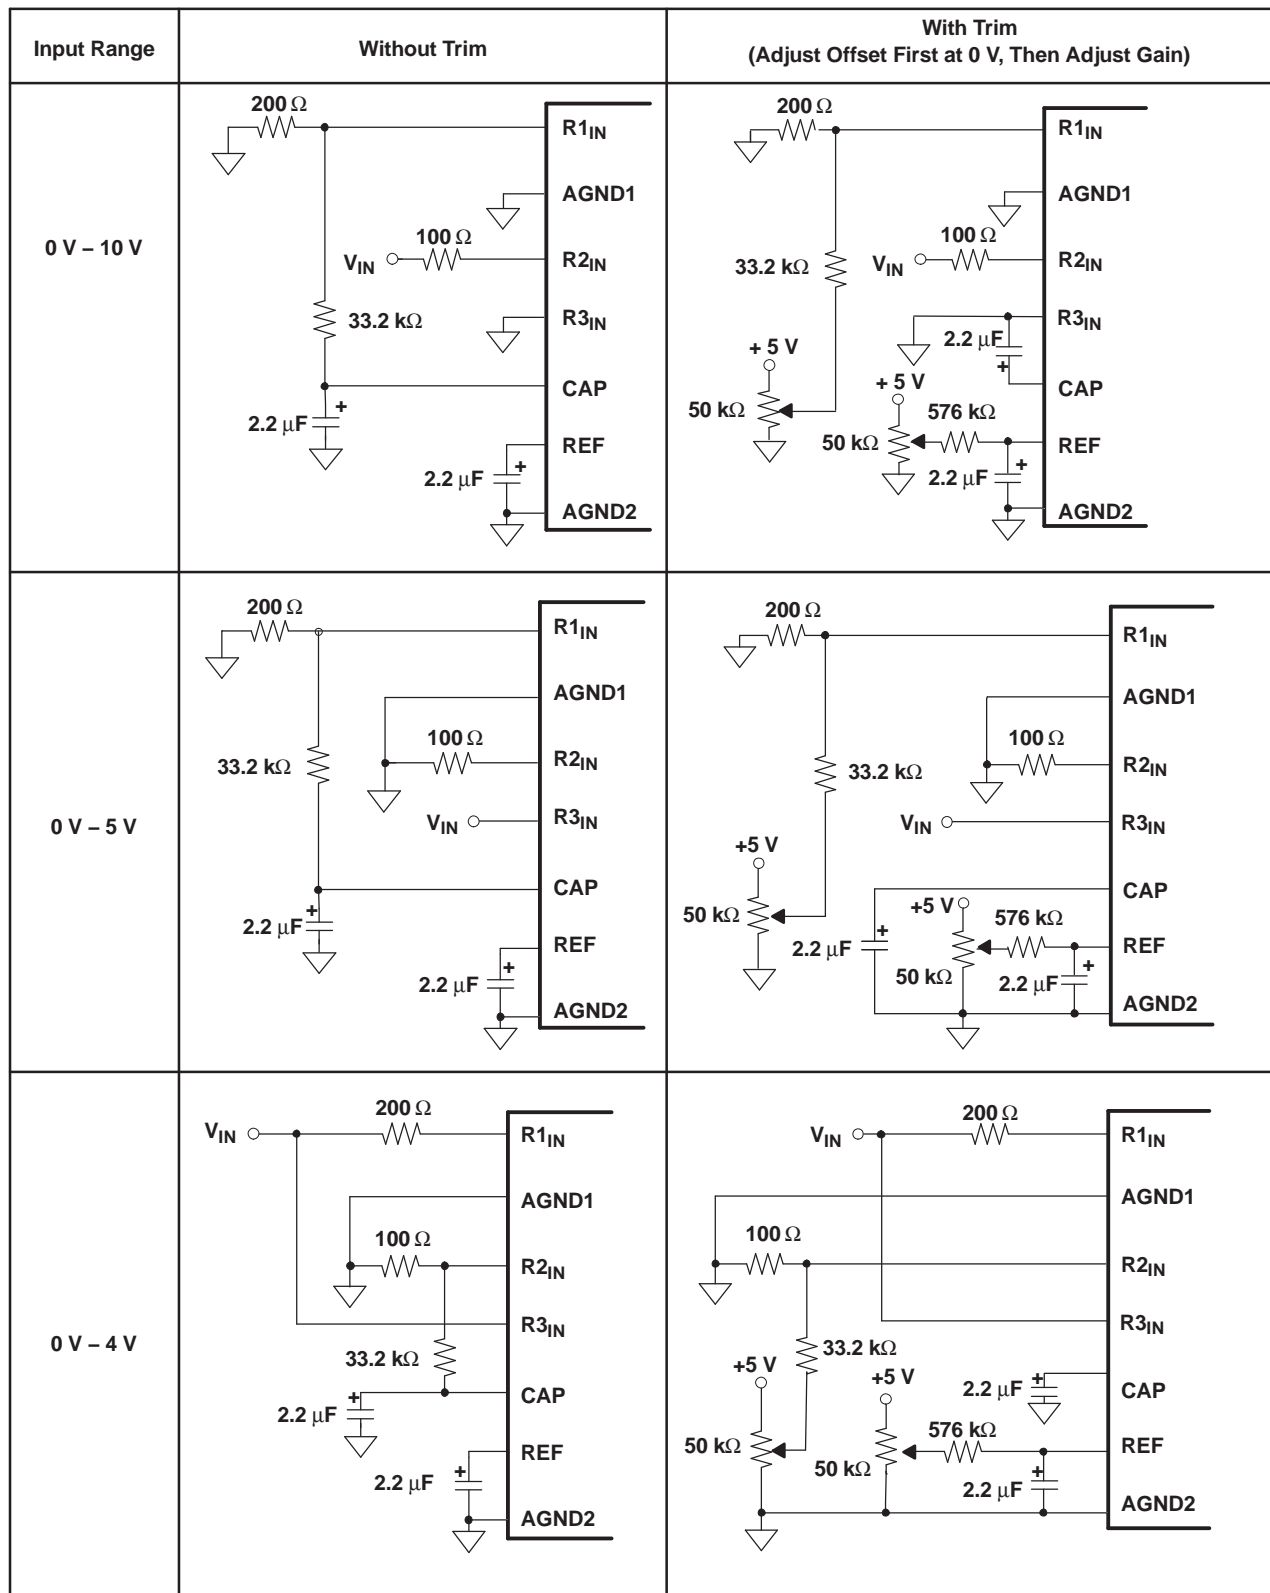
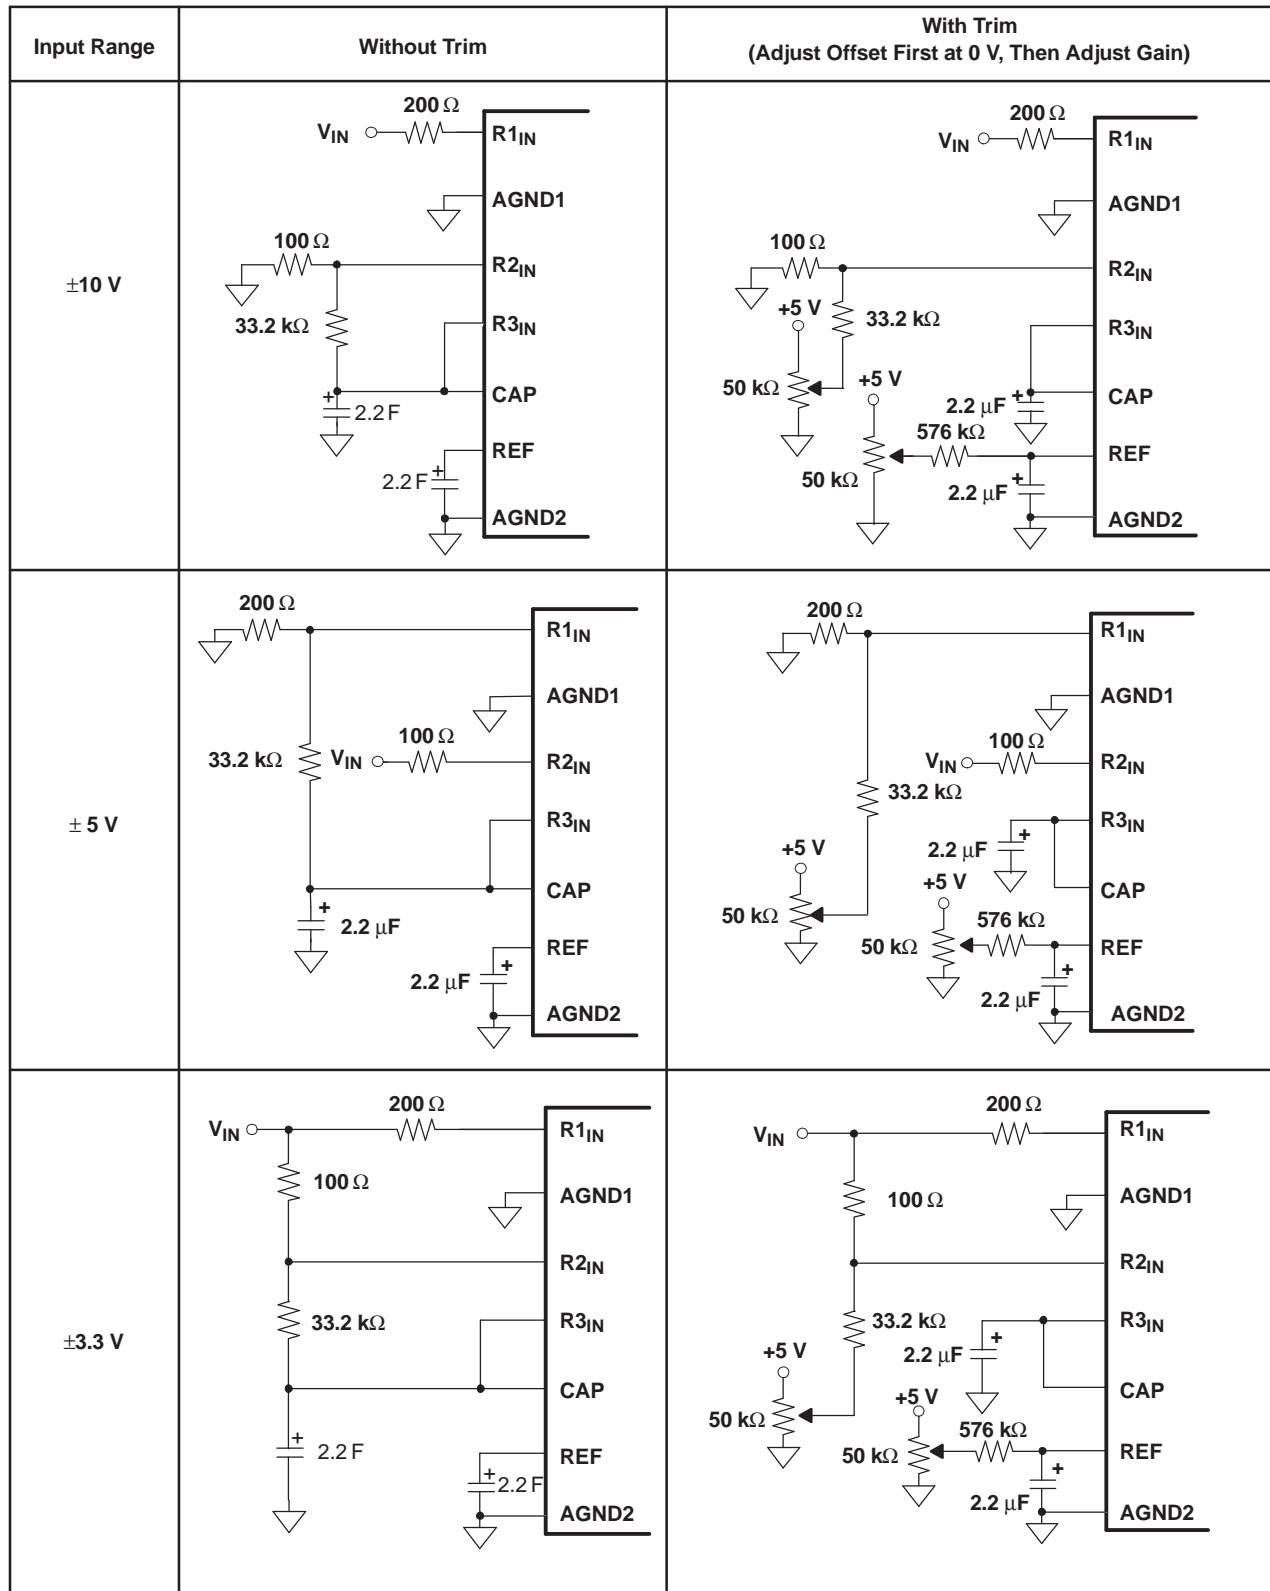

Figure 29. Offset/Gain Circuits for Unipolar Input Ranges
Figure 30. Offset/Gain Circuits for Bipolar Input Ranges
The ADS8509 has six analog input ranges as shown in Table 2. The offset and gain specifications are factory calibrated with 0.1%, 0.25-W, external resistors as shown in Figure 29 and Figure 30. The external resistors can be omitted if larger gain and offset errors are acceptable or if using software calibration. The hardware trim circuitry shown in Figure 29 and Figure 30 can reduce the errors to zero.
**Table 2. Input Range Connections (See Figure 29 and Figure 30 for Complete Information)**